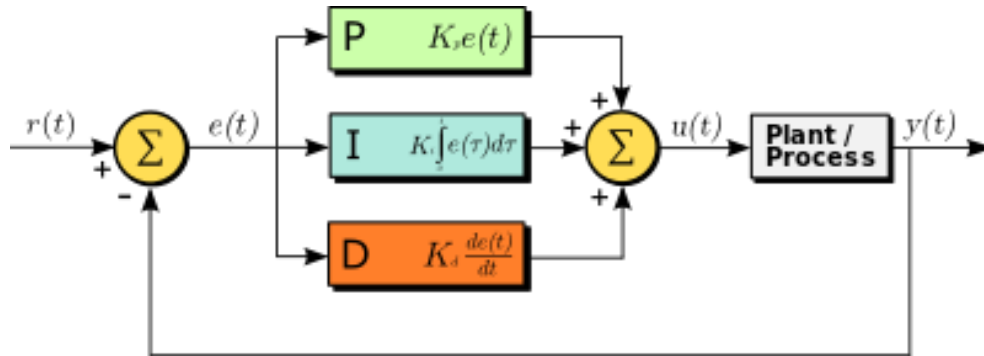

Figure 7: PID Controller [1]
PID control, seen in Figure 7, is made up of proportional, integral and derivative components. It is a very powerful tool when it comes to feedback design and improving system performance. In this section we explore how PID is implemented in electronic circuits without the need for sensors and software.
- Find the relationship between Verror to V_p , V_d and V_i respectively for each circuit below, solving for K_p , K_d , K_i as seen in Fig 7, in terms of resistors and capacitors, in both the **time domain** and **laplace domain**.